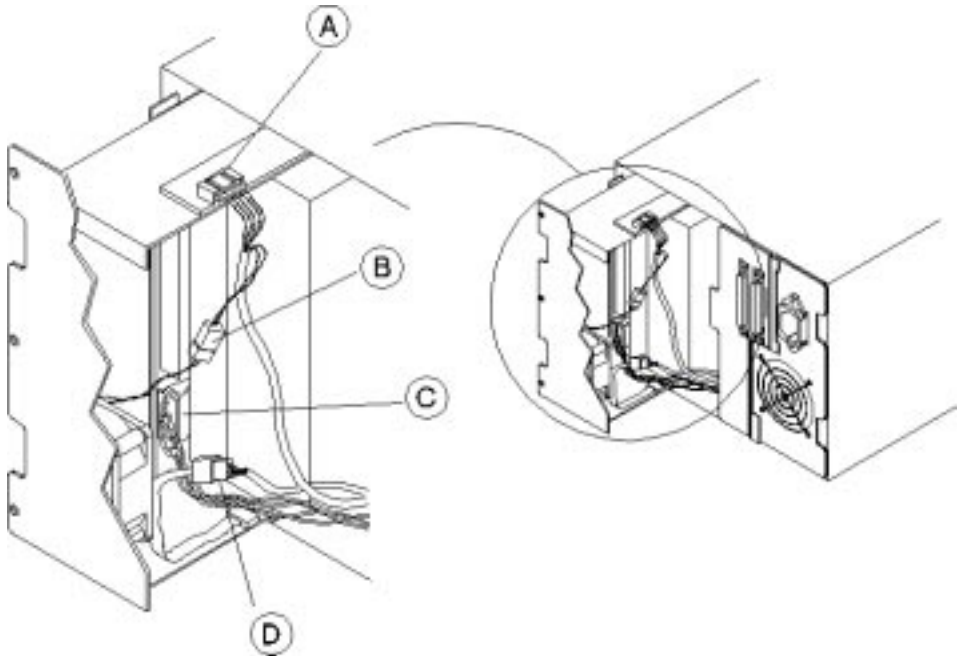

FIGURE 5-4 Drive Cables
5. Disconnect the following four cable connectors, which are labeled in FIGURE 5-4.
1. **Partially slide in the new DLT drive. Reconnect the four cable connectors. See FIGURE 5-4 on page 5-5.**